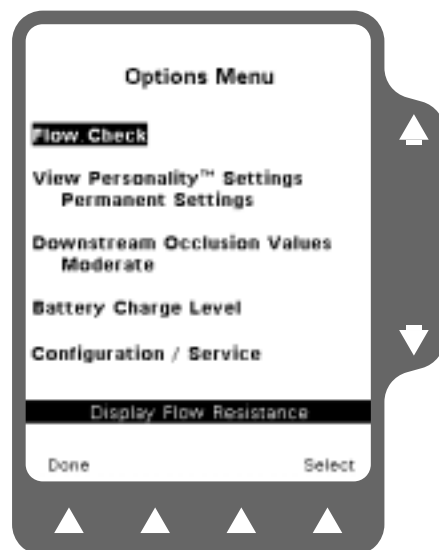

Figure 4-3 Options Menu
1. Press the **Options** soft key from the Main Display to access the Options Menu shown in Figure 4-3.